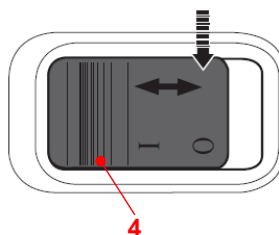

Fig. 17: On-position
2. Press the rear part of the on/off switch (4) again so that it snaps back into its off-position (Fig. 17).